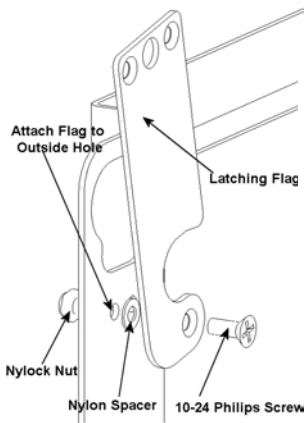

Figure 2
1. Attach latching flag to mount using the 10-24 Philips screw, the nylon washer, and the Nylock nut using the outside mounting hole (see Figure 2). Tighten until friction will hold the flag in place.